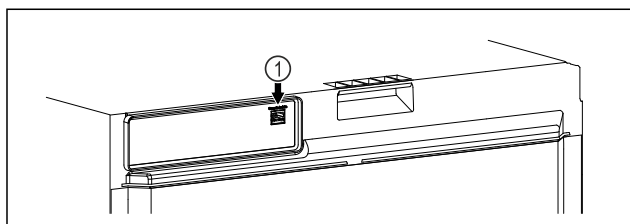

Fig. 108
- ❑ SmartModule Fig. 108 (1) has been inserted.